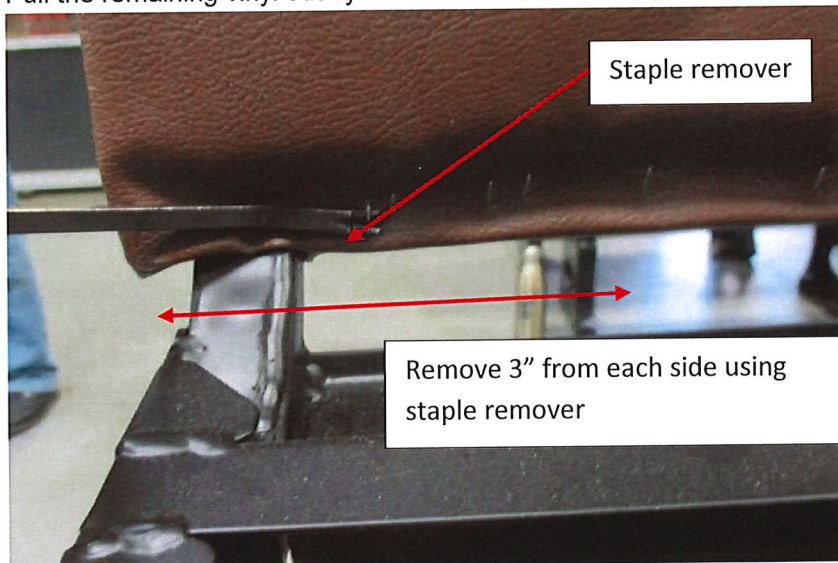

Figure 1: Removal of Vinyl Seat cover
5. Using the staple remover, remove 3 inches of staples from each side of the front bottom of seat **Figure 1**